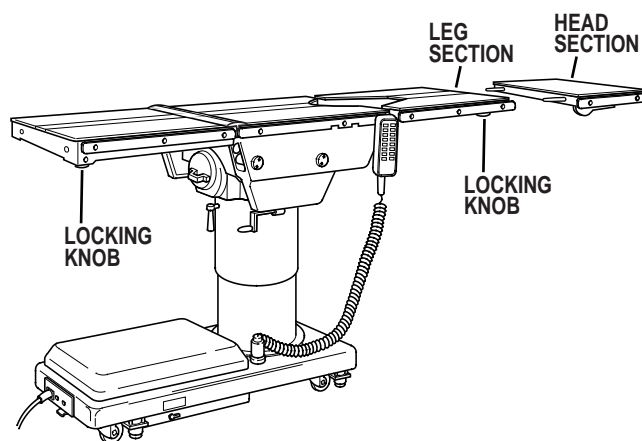

Figure 3-14. Repositioning Head Section
b. By loosening two locking knobs beneath the back section, an additional 5" of longitudinal adjustment can be achieved. If desired, the head section may be removed by loosening the locking knobs and pulling it straight out of the back section. 6001 Series Tables have the capability of attaching the head section to the leg section for use as a foot extension ONLY. Do Not reverse the patient on the table without first consulting with SKYTRON. Two locking knobs are located on the inside of the leg section for securing the head section. See figure 3-14.